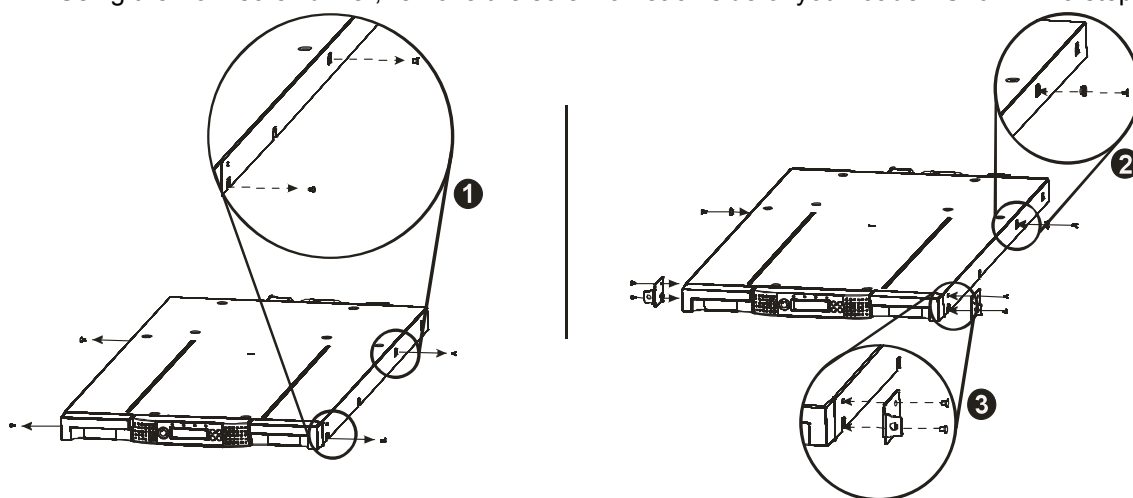

Figure 5 Installing the mounting brackets and guide pulleys
2. Install the loader guide pulleys on each side of the loader using the 2 Torx screws included in the rack kit (see Figure 5 step 2).
Install the mounting brackets of the loader using the 4 Torxs screws included in the rack kit. Shown in Figure 5 (step 3).